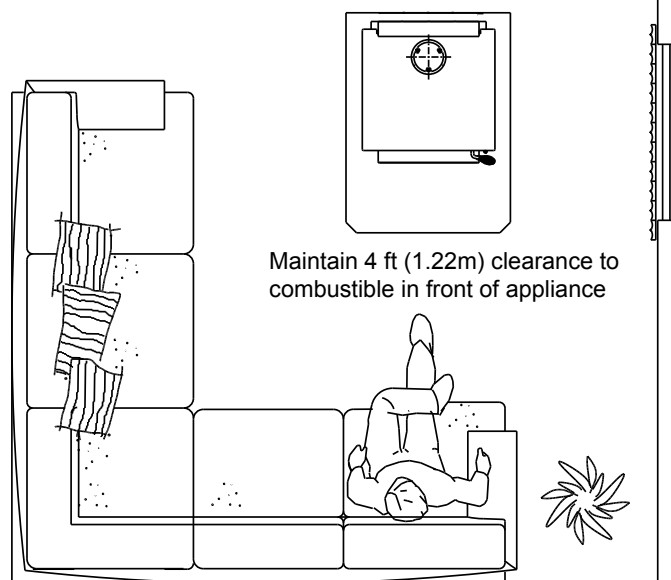

Figure 15.1
- Do NOT place combustible objects within 4 ft (1.2 m) of the front of appliance (**Figure 15.1**).